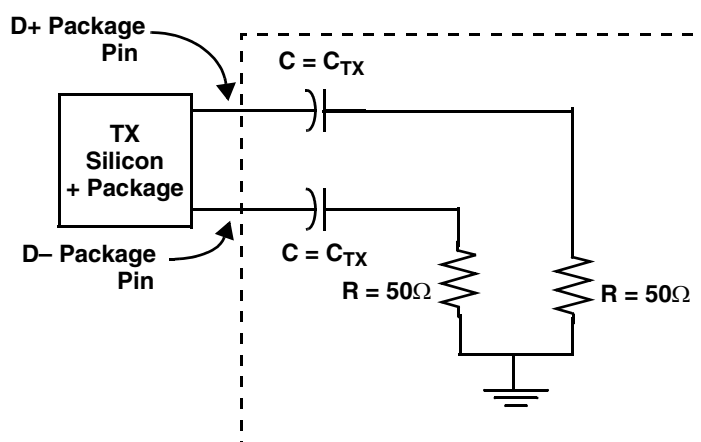

Figure 47. Compliance Test/Measurement Load
- ² Specified at the measurement point into a timing and voltage test load as shown in Figure 47 and measured over any 250 consecutive Tx UIs.
Transmitter and receiver AC characteristics are measured at the transmitter outputs (SD_TX_n and SD_TX_B_n) or at the receiver inputs (SD_RX_n and SD_RX_B). The AC timing and voltage parameters must be verified at the measurement point, as specified within 0.2 inches of the package pins, into a test/measurement load shown in Figure 47.